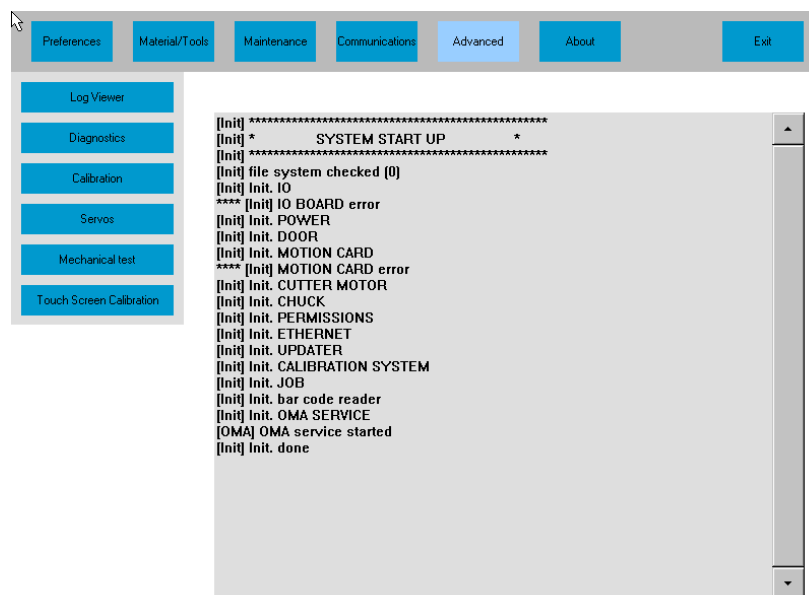

Figure 5.1: Advanced Setup Screen
- Advanced Setup Screen (Figure 5.1)
Figure 5.1 shows the Advanced Setup screen. The table following the figure describes the graphic elements displayed on the Setup Screen.
Log Viewer	<ul style="list-style-type: none"> Tap to view system event log (shown in Figure 5.1).